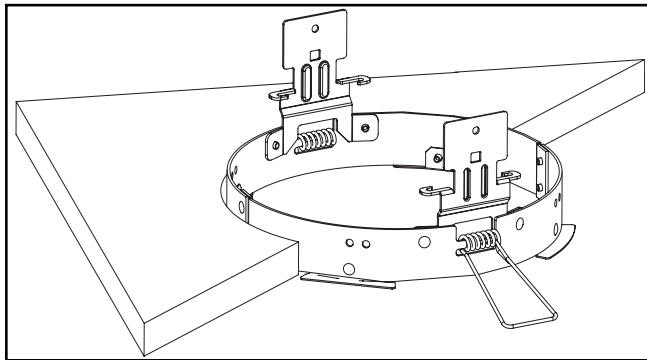

Figure 2.
3. Insert Remodel ring into hole in ceiling by pinching springs upward (Figure 2.).